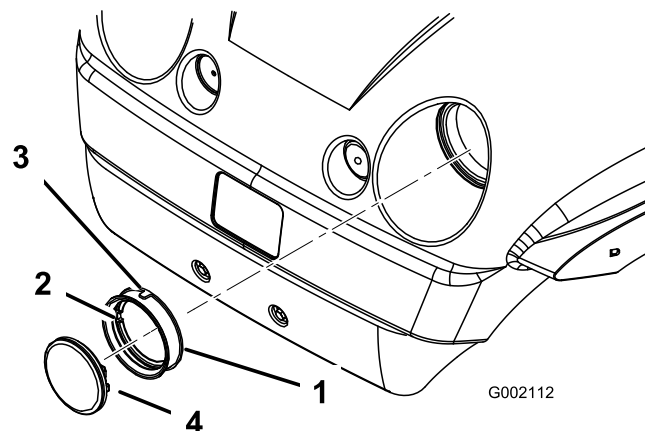

Figure 26
4. Remove the rubber seal from around the headlight (Figure 26). Discard the headlight.
- Align the notch on the inside of the seal with the notch on the new headlight (Figure 26). Slide the seal onto the headlight until the seal is firmly in place.